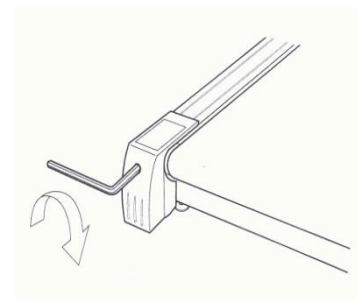

Figure 1
1. **Running belt has shifted to the left side. (Figure 1 - Adjusting the belt to right side)**